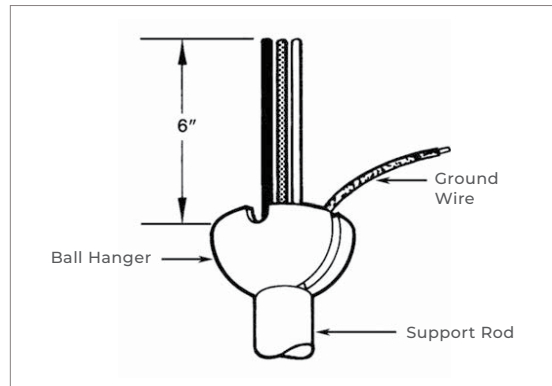

FIGURE 7
- 2) Trim the lead wires, leaving about 6 inches of wire extending from the support rod (Fig 7)